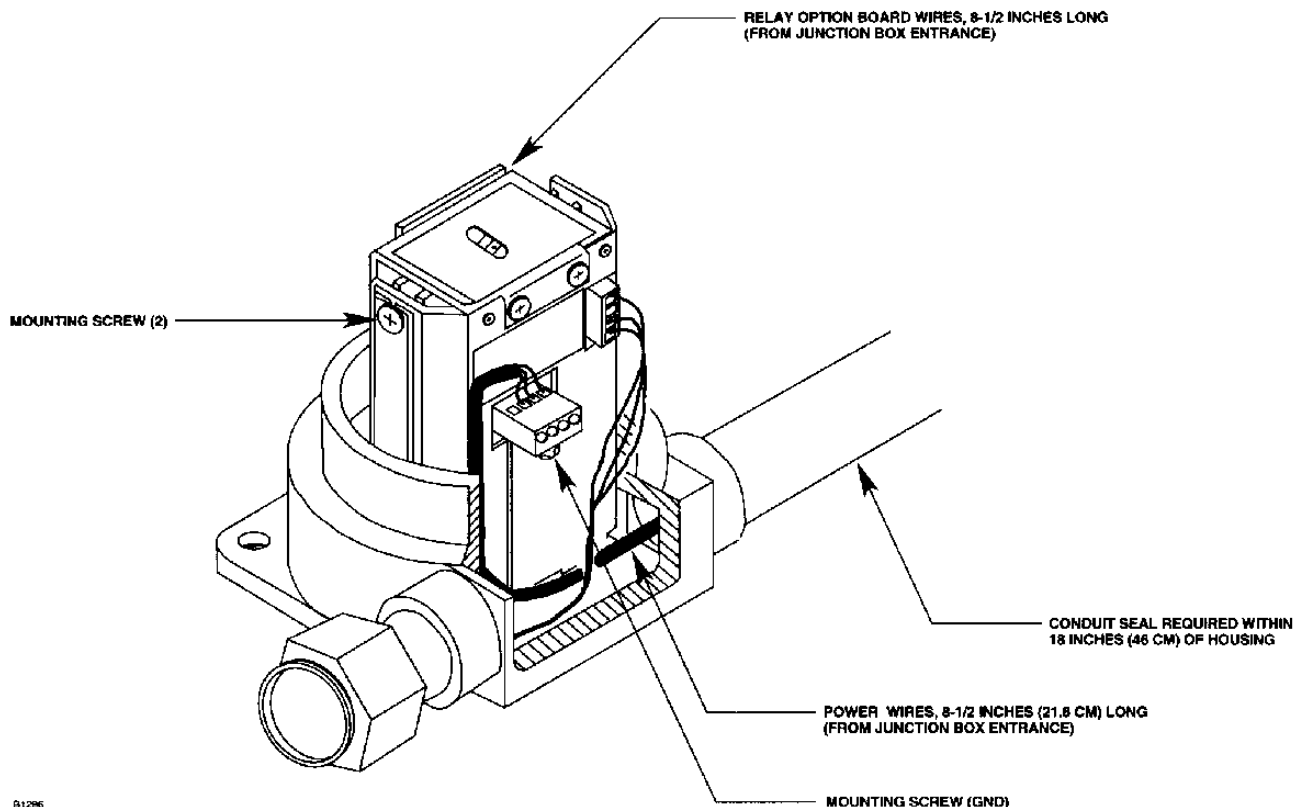
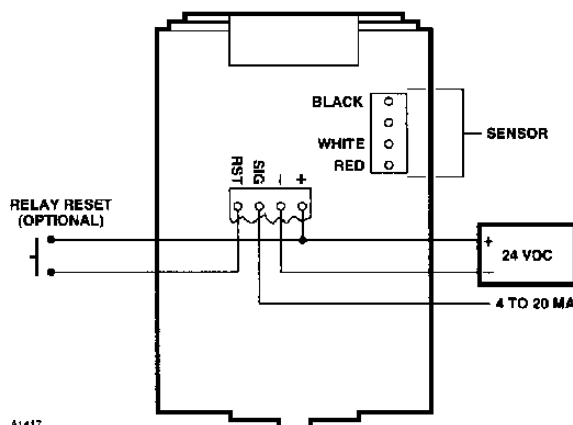

Figure 10—Transmitter Module Installation
Figure 11—Transmitter Wiring
5. Loosen the three mounting screws on the transmitter module, then install the module in the mounting bracket inside the enclosure and tighten the screws. See Figure 10.
6. Attach the sensor to the conduit entry on the transmitter enclosure as shown in Figure 10. The sensor should be tight to ensure an explosion-proof installation, however, do **not** overtighten. Route the wires as shown. Attach the sensor plug to the transmitter module at the appropriate terminal location. See Figures 10 and 11. If a sensor separation kit is being used, refer to the appropriate section in this manual for installation details.
7. Connect the power and current output leadwires to the screw terminals on the plug that is provided. Proper wire locations are indicated on the sideplate of the transmitter and also in Figure 11. See Figure 10 for proper wire length and routing. Connect the shield to earth ground at the power supply. Under normal conditions, the other end of the shield should **not** be grounded at the transmitter unless such a connection is required by local wiring codes.
10. If the optional relay board is installed, a remotely located relay reset switch can be wired as shown in Figure 11. (The relays can also be reset using the calibration meter.) The use of shielded wire is recommended for wiring the switch. The switch must be held for approximately one second before the transmitter resets the relays.